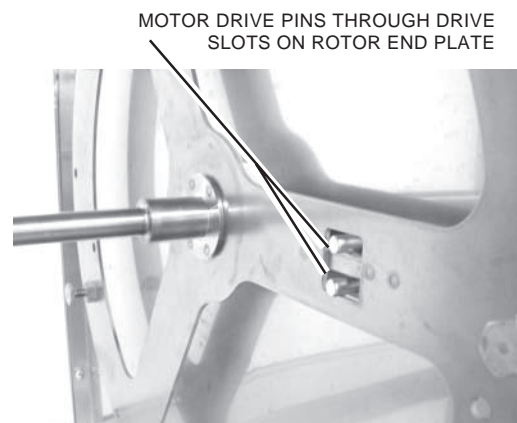

Fig. 8
STEP 6: Rotor is now in normal operating position (Fig. 8).